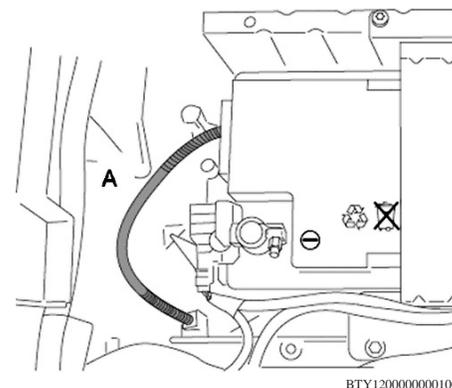

Fig. 3 Battery vent hose
6. Pull off vent hose (A) on battery, **Fig. 3**.